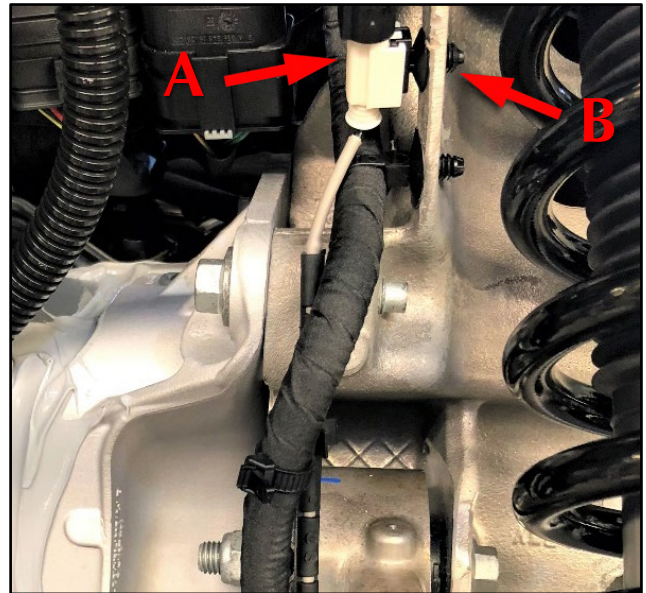

Figure 6
8. Connect the white plug to the wiring loom (refer to A, Figure 6).
9. Attach the white plug to the body hole (refer to B, Figure 6).